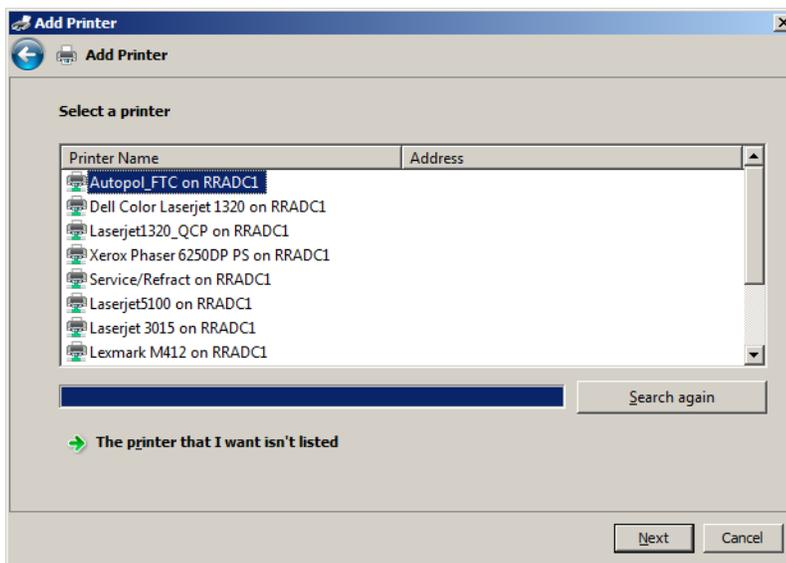

Figure 10-30 - Select Printer Driver
- 7) If your network has printer discovery turned on a list of network printers will be displayed as shown in Figure 10-30 below.